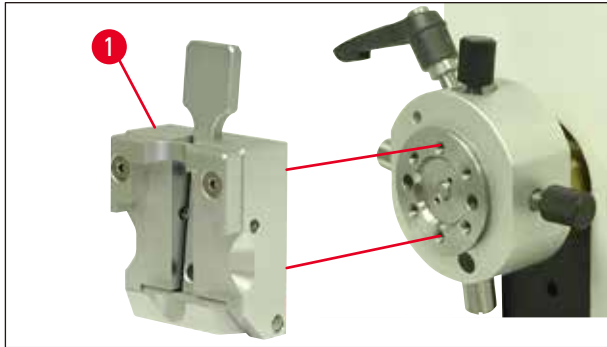

Fig. 11
- Attach the specimen clamp (→ Fig. 11-1) to the specimen holder fixture as shown (→ Fig. 11) and fasten it using the two screws (→ Fig. 10-4).